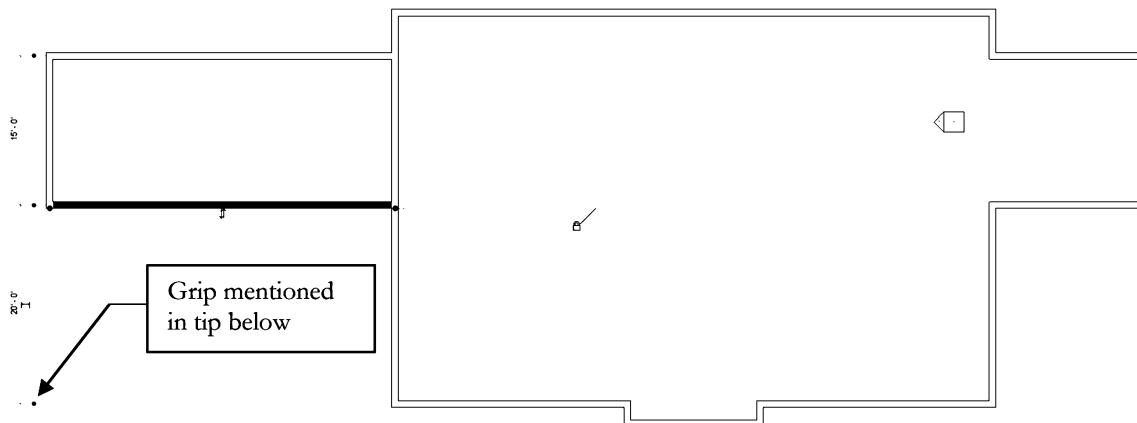

FIGURE 5-2.7 Wall edit: Both walls move together
14. Change the $4'-0''$ dimension to $20'-0''$ (Figure 5-2.7). After reviewing the information below, click **Undo**.
Notice that both walls moved together (Figure 5-2.7). Also notice that when either wall is selected, the padlock is displayed, which helps in identifying “locked” relationships while you are editing the project. Whenever the padlock symbol is visible, you can click on it to unlock it or remove the aligned relationship.